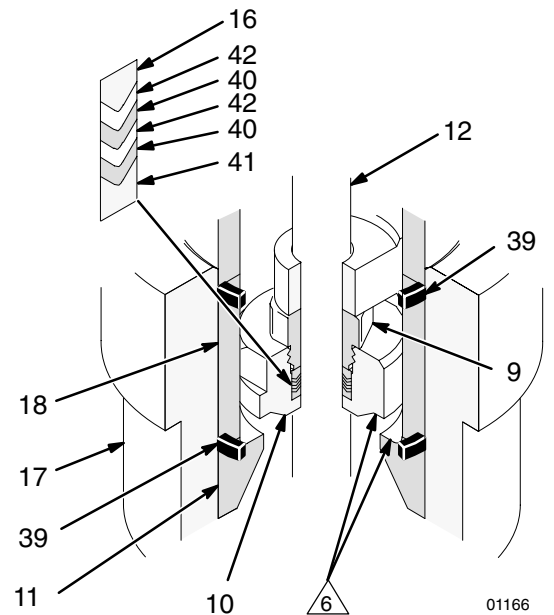

Fig. 9
When disassembling the pump, lay out all the removed parts in sequence, to ease reassembly. Clean all parts with a compatible solvent and inspect them for wear or damage. Refer to Fig. 9.
10. Pull the seal (39) and seat (11) out the top of the intake housing (17). See Fig. 9. If the seat is difficult to remove, turn the housing upside down and drive the seat out using a hammer and brass rod.
11. Examine the mating surfaces of the seat (11) and the intake valve body (10) for damage.
12. Slide the rod guide (18) off the priming piston rod (12). Unscrew the priming piston rod from the piston (6). Run a finger over the surface of the rod to check for scratches or scoring.
13. Place the flats of the piston (6) in a vise. Unscrew the displacement rod (1) from the piston (6). Lift the piston seat and guide assembly off the piston. Inspect the mating surfaces of the piston (6) and piston seat (8) for damage. See the Detail in Fig. 9.
14. Remove the displacement rod (1) from the vise and inspect it for scratches and scoring by running a finger over the surface.
16. Take the intake valve assembly removed in step 9 and unscrew the packing nut (9) from the valve body (10). Using an o-ring pick, remove the glands (16, 41) and v-packings (40 and 42) from the valve body. See the Detail in Fig. 9.
17. Unscrew the handle of the bleeder valve (28) completely from the valve housing. Clean the valve threads and the bleed hole in the valve housing. It is not necessary to remove the valve housing from the outlet housing (19).
18. Remove the packing nut (2) from the outlet housing (19). Remove the throat packings (22, 24) and glands (21, 23) from the outlet housing (19). **Do not** remove the fluid outlet nipple (20) and o-ring (25) from the outlet housing unless they need replacement.